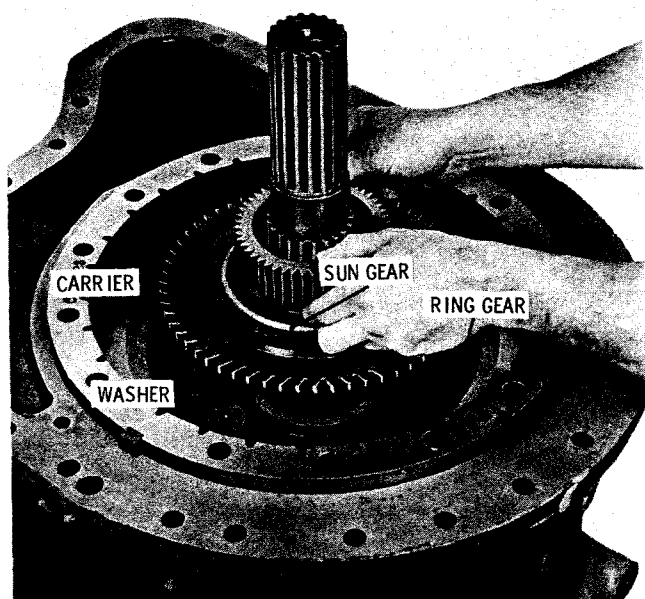

Fig. 7-27. Installing reverse-range sun gear
(11) Install the bronze thrust washer onto the low-range carrier hub. Install the reverse-range sun gear over the hub of the carrier. Engage the sun gear splines with the teeth of the low-range ring gear (fig. 7-27).